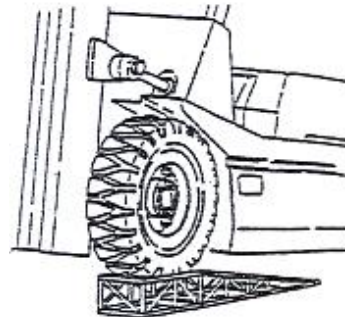

Figure 2-18
7.5.4 Replace the roller of main frame as shown in Figure 2-18